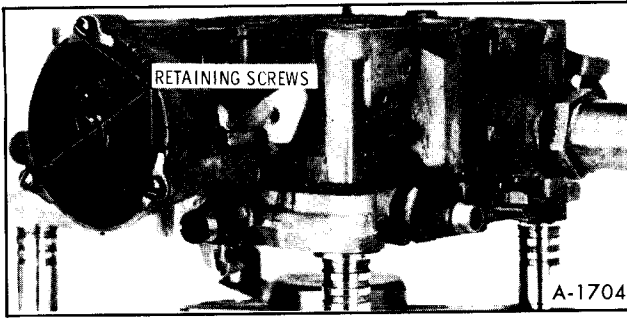

Figure 19—Choke Housing
1. Remove three retaining screws and retainers from choke cover and coil assembly. Then pull straight outward and remove cover and coil assembly from choke housing. See Figure 19.